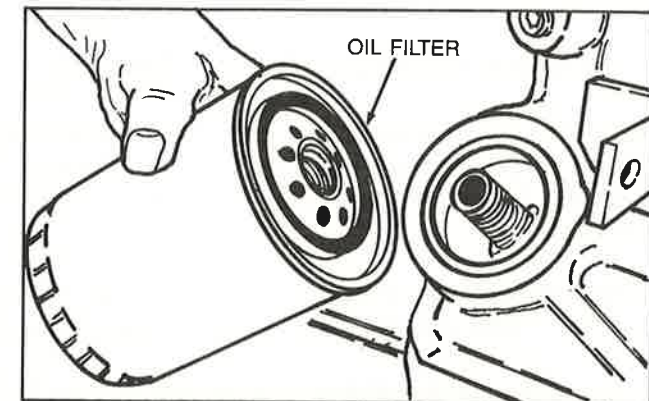

Figure 40. Removal of Oil Filter
- Clean the mounting surface for the filter. See Figure 40.